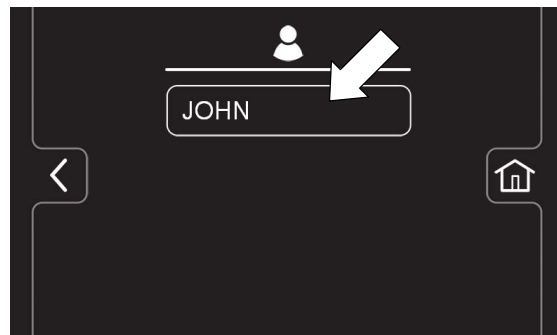

FIG. 156
- d. Select a pre-assigned user profile. In this example, operator profile “JOHN” is selected (Figure 156). Turn the key off to apply the setting.